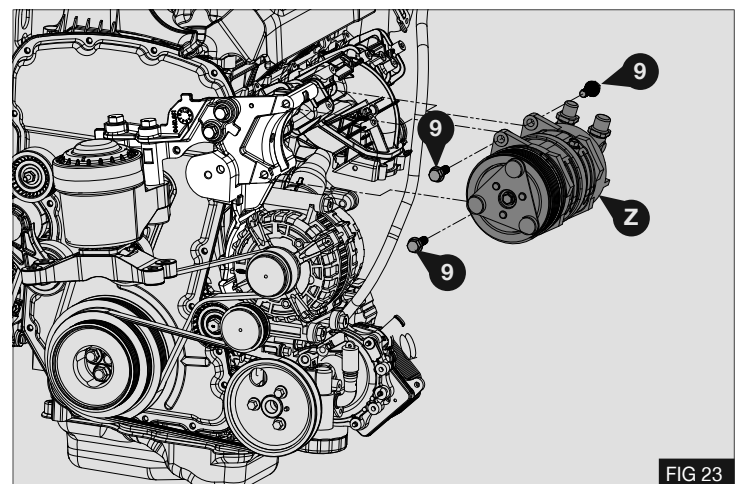

FIG 23
4. Fit modified compressor (Z) to the main bracket (3) using 3x M10x30 bolts (9). Do not fully tighten the bolts at this stage.
- Fig 23
Torque bolts (9) to 58Nm / 42.8Lbft - Fig 23